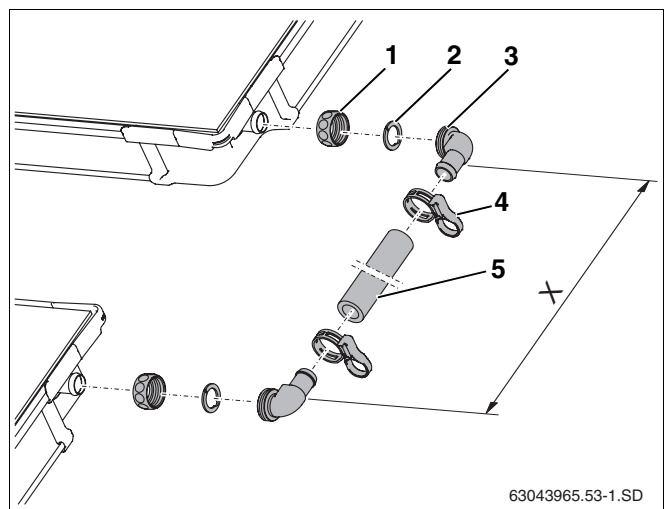

Fig. 60 Connection set between two collector rows
- ▶ Push union nut (Fig. 60, **Item 1**) over the collector connections.
- ▶ Place the clamping disc (Fig. 60, **Item 2**) behind the bead on the collector connection and press together.
- ▶ Press angled nozzle with O-ring (Fig. 60, **Item 3**) onto connection, align and bolt together with union nut.
- ▶ Measure distance between the angled nozzles (dim. X) once the collectors are installed, and cut the solar hose (Fig. 60, **Item 5**) to size accordingly.
- ▶ Attach solar hose to the angled nozzles and secure using hose clips (Fig. 60, **Item 4**).